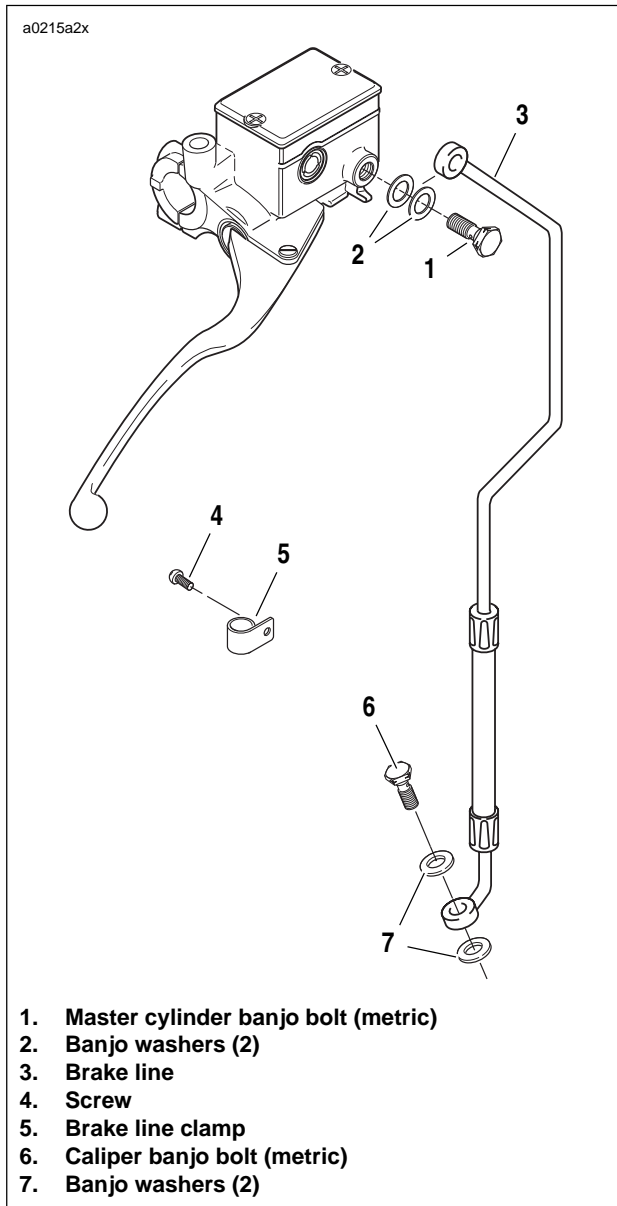

Figure 2-44. Front Brake Line
2. See Figure 2-44. Remove screw (4) to detach brake line clamp (5) from right side of lower triple clamp. Remove brake line from wireform.
3. Remove master cylinder banjo bolt (1) (metric) and two banjo washers (2) to disconnect brake line from master cylinder. Discard banjo washers.
4. Remove caliper banjo bolt (6) (metric) and two banjo washers (7) to disconnect brake line from caliper. Discard banjo washers.
1. See Figure 2-44. Connect brake line to master cylinder using two **new** banjo washers (2) and banjo bolt (1) (metric). Loosely install bolt into master cylinder.
2. From the master cylinder, the brake line runs downward in front of the right handlebar, where it turns inboard at the upper triple clamp. Loosely install clamp (5) with screw (4) to attach front brake line to right side of lower triple clamp. Position brake line in wireform.
3. Connect brake line to caliper using two **new** banjo washers (7) and banjo bolt (6) (metric). Tighten banjo bolt (6) to 16-20 ft-lbs (22-27 Nm).
4. Tighten clamp screw (4) on lower triple clamp to 36-60 **in-lbs** (4-7 Nm).
5. Tighten master cylinder banjo bolt (1) (metric) to 16-20 ft-lbs (22-27 Nm).